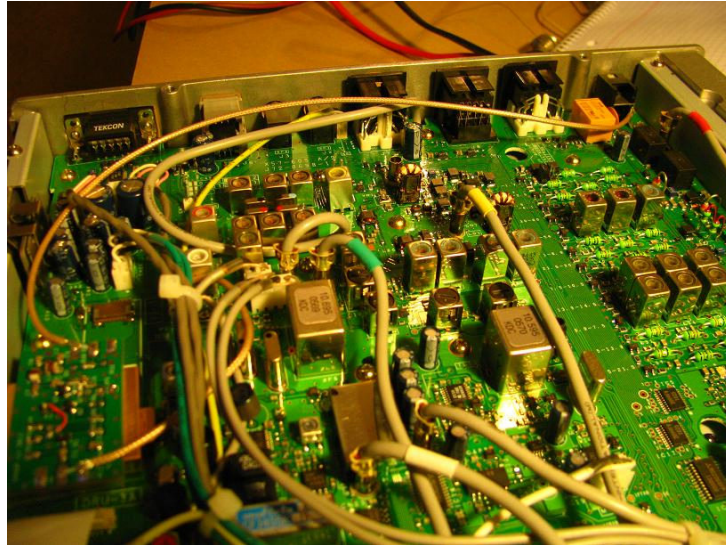

**Fig 4 – Solder tag installed by RCA jack on rear panel**
- 9 Fit a solder tag under the PCB mounting screw closest to the RCA jack – bend it up as shown in Fig 4.